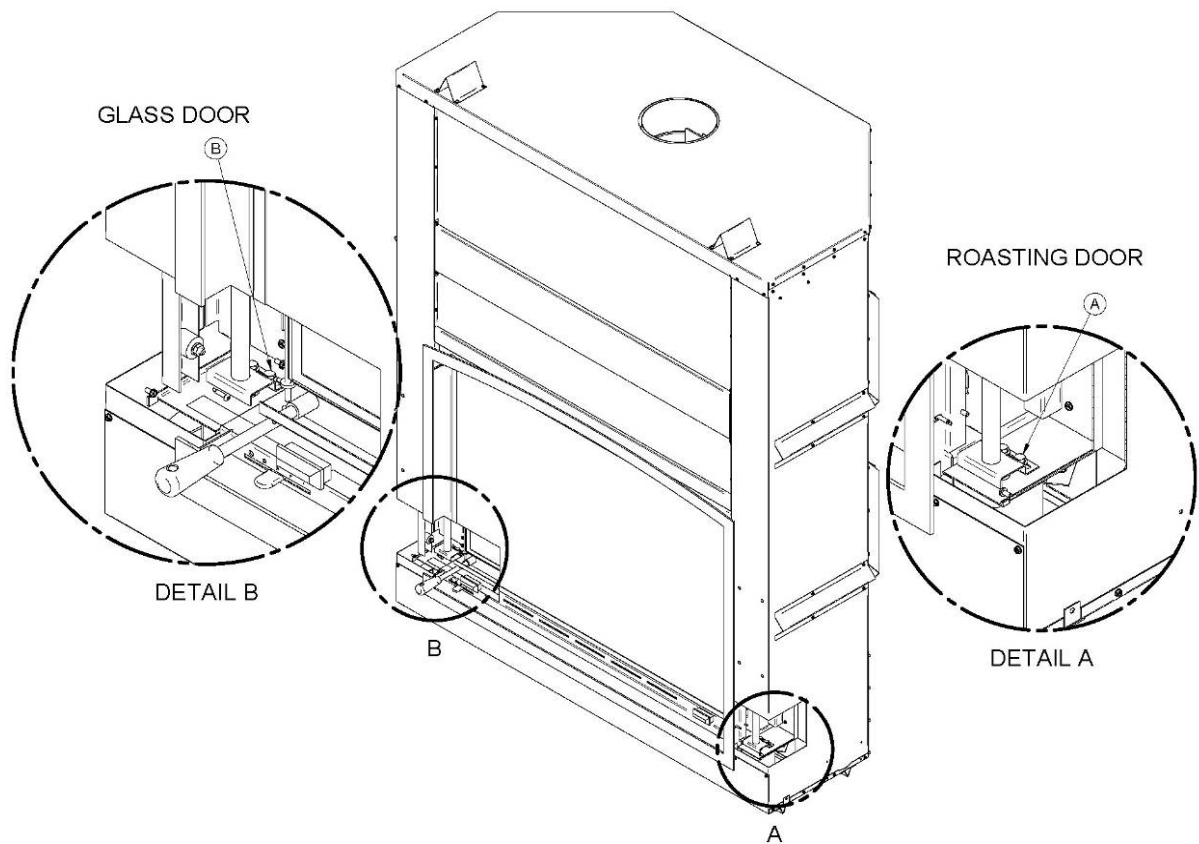

Figure 26
2. Unscrew one of the two bolts (**Detail A**) which are located in the lower right corner of the screen door (see **Figure 26**).
3. Unscrew the two bolts (**Detail B**) which are located in the lower left corner of the door (see **Figure 26**).